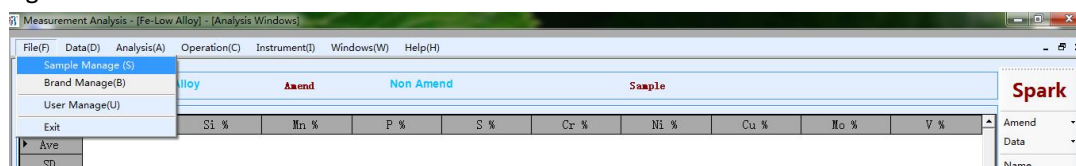

Figure 4-3 Sample Management
Step 1 Click “Sample Management” in the “File” menu of the analysis software menu, as shown in Figure 4-3: